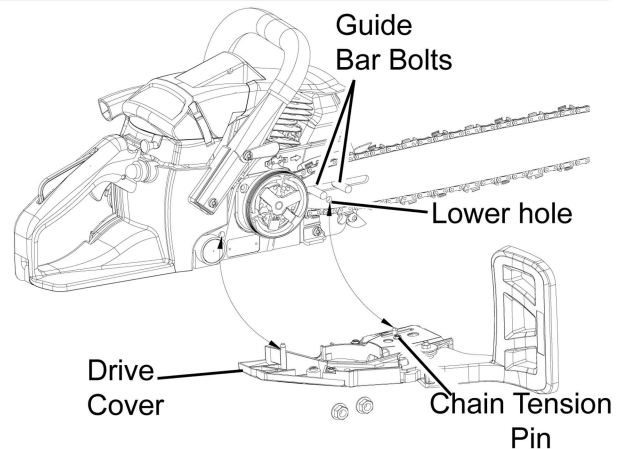

Figure 3:
4. Place the slotted end of the Chain Guide Bar over the Guide Bar Bolts and place the Saw Chain over the Drive Sprocket. Refer to Figure 3.